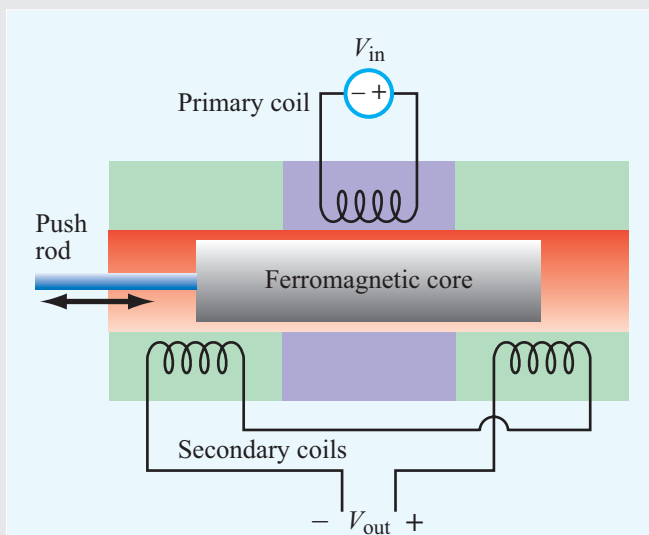

Figure TF11-1 Linear variable differential transformer (LVDT) circuit.
- An LVDT comprises a primary coil connected to an ac source (typically a sine wave at a frequency in the 1–10 kHz range) and a pair of secondary coils, all sharing a common **ferromagnetic core** (Fig. TF11-1). ◀